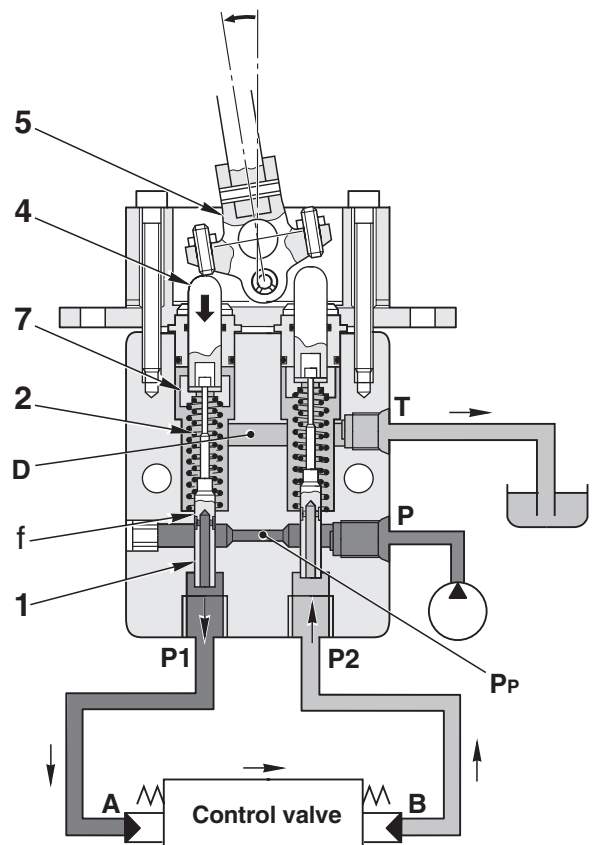

Fig. 2
Therefore, metering spring (2) is compressed pro- portionally to the amount of movement of the control lever, so the pressure at Port **P1** also rises in pro- portion to the travel of the control lever. In this way, the control valve spool moves to a position where the pressure in chamber **A** (the same as pressure at Port **P1**) and the force of the control valve spool re- turn spring are balanced. (Fig. 2)